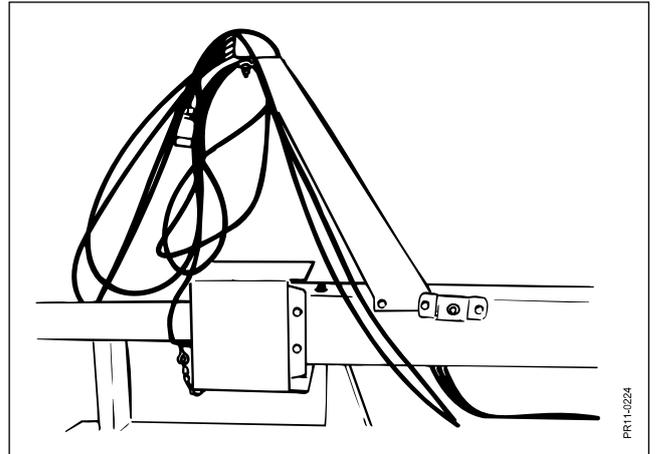

Fig. 7.2
**Ref. Fig. 7.2 – 7.3 – 7.4 and 7.5.**